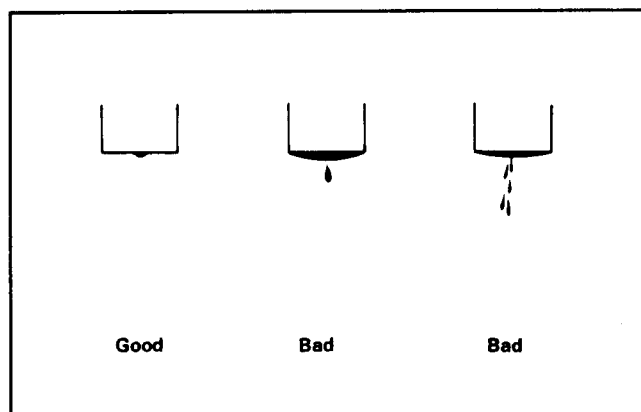

Figure 18
6. While pressure is being applied, watch for an accumulation of fuel at the tip of the nozzle (Fig. 18). A small amount of fuel may be present due to a previous chattering test - this would be normal. If the fuel accumulates and drips down during the test (about ten seconds) the nozzle assembly is defective and must be replaced.